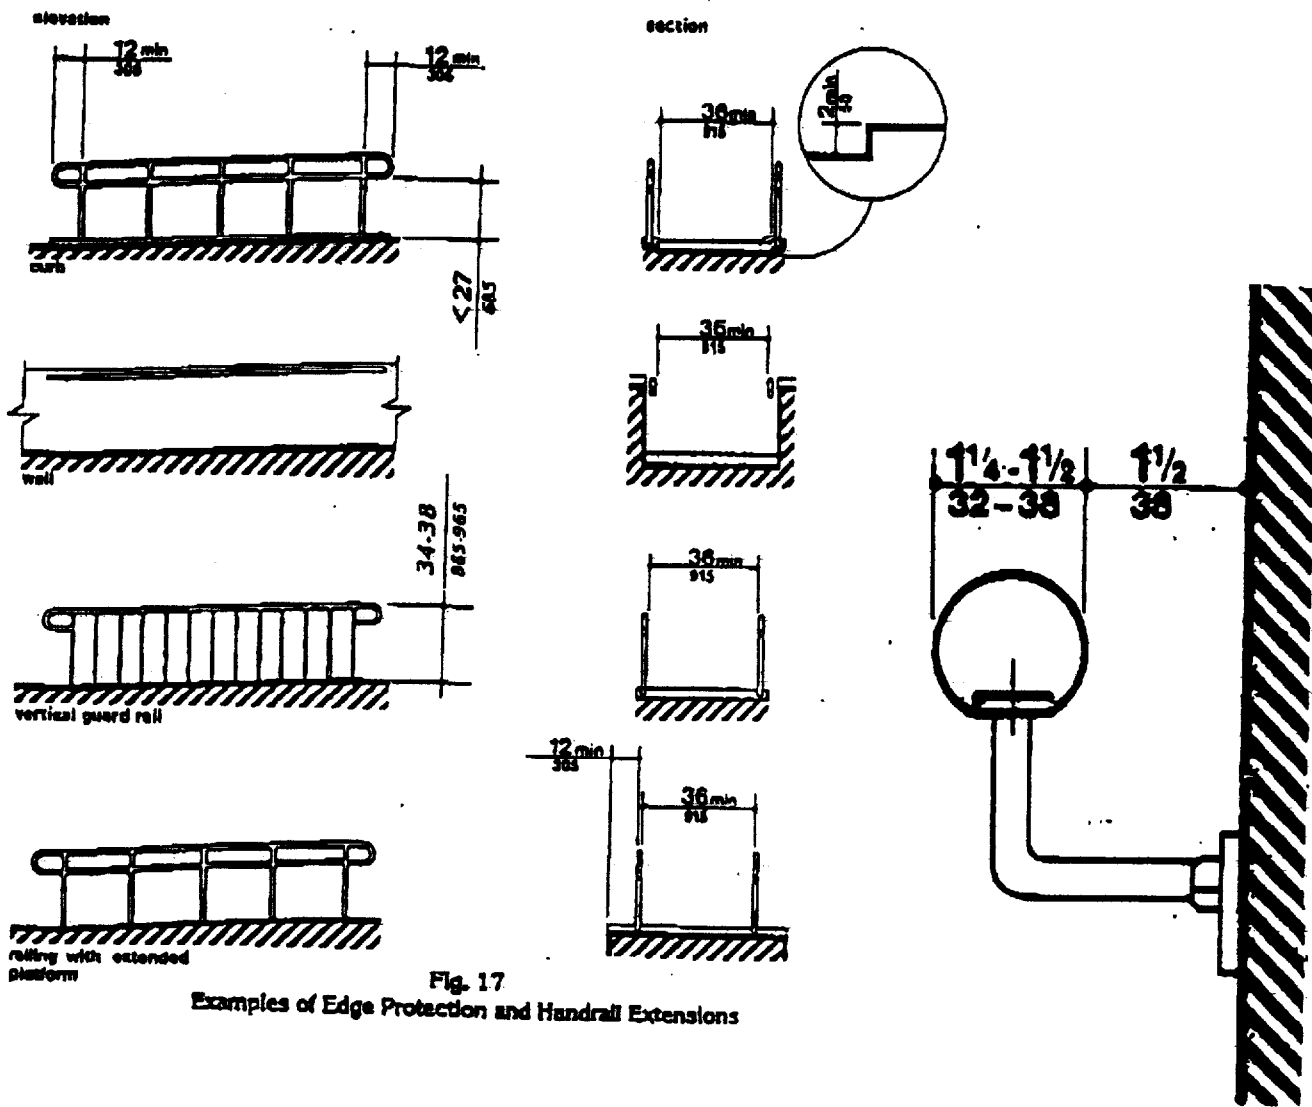

Fig. 17
- (1) Handrails shall be provided along both sides of ramp segments. The inside handrail on switchback or dogleg ramps shall always be continuous.
- (2) If handrails are not continuous, they shall extend at least 12 in (305 mm) beyond the top and bottom of the ramp segment and shall be parallel with the floor or ground surface (see Fig. 17).
- (3) The clear space between the handrail and the wall shall be 1 - 1/2 in (38 mm).
- (4) Gripping surfaces shall be continuous.
- (5) Top of handrail gripping surfaces shall be mounted between 34 in and 38 in (865 mm and 965 mm) above ramp surfaces.
- (6) Ends of handrails shall be either rounded or returned smoothly to floor, wall, or post.
- (7) Handrails shall not rotate within their fittings.
4.8.7 Edge Protection. Ramps and landings with drop-offs shall have curbs, walls, railings, or projecting surfaces that prevent people from slipping off the ramp. Curbs shall be a minimum of 2 in (50 mm) high (see Fig. 17).